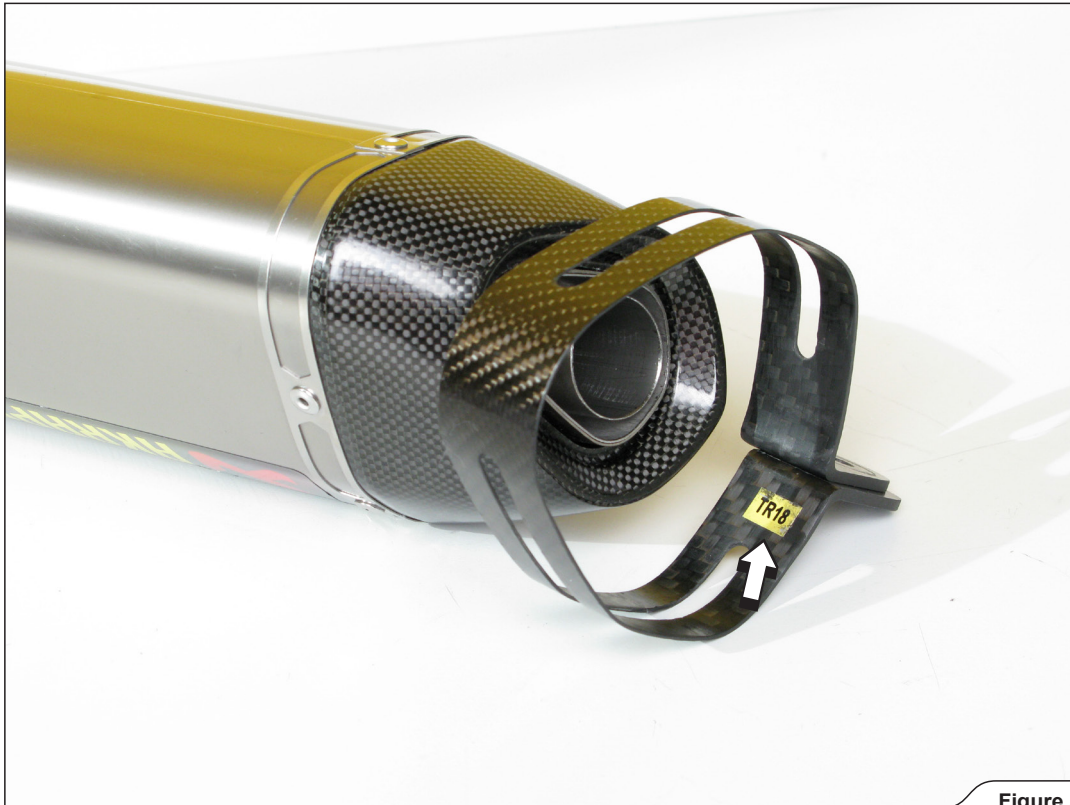

Figure 5
3. **For models with side cases:** correctly position the carbon-fiber clamp and slide it onto the muffler - bear in mind the **right offset** of the carbon-fiber clamp viewed from the rear; check the position of the yellow sticker on the clamp (Figure 5).